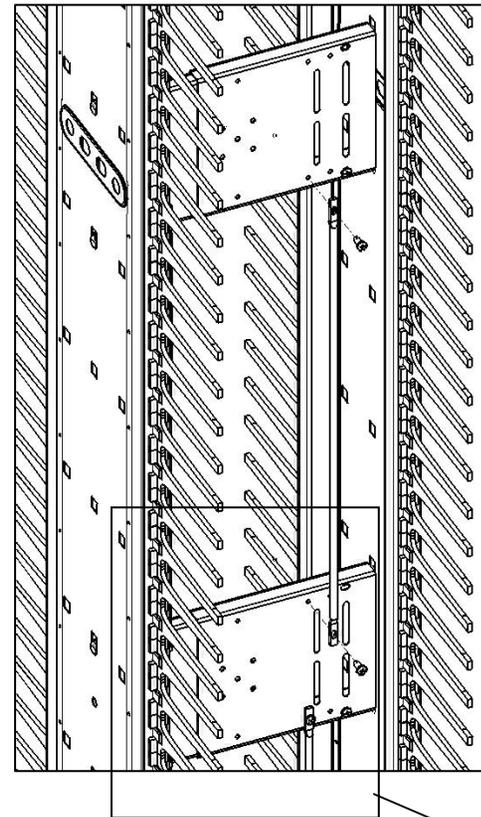

FIGURE 1
5. Mount a single Lashing Bar using two 10-32 x 1/2" screws as shown in Figures 1 and 2.